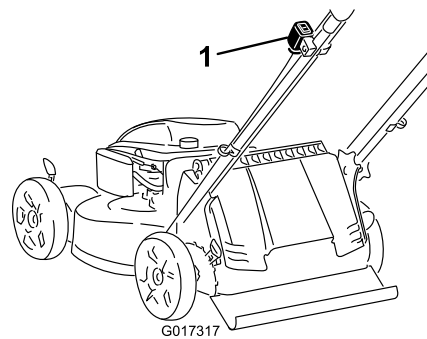

Figure 19
2. For electric-start models, push the button to start the engine (Figure 19).